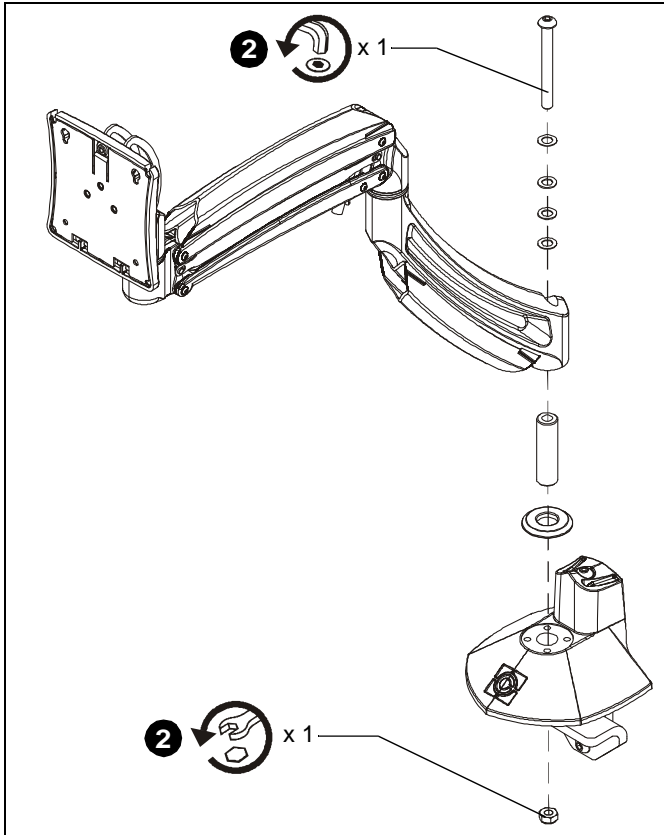

Figure 1
2. Loosen lock nut and 3" button head cap screw located in arm to remove arm from mount. **SAVE ALL HARDWARE AND MOUNT ARM!** (See Figure 1)